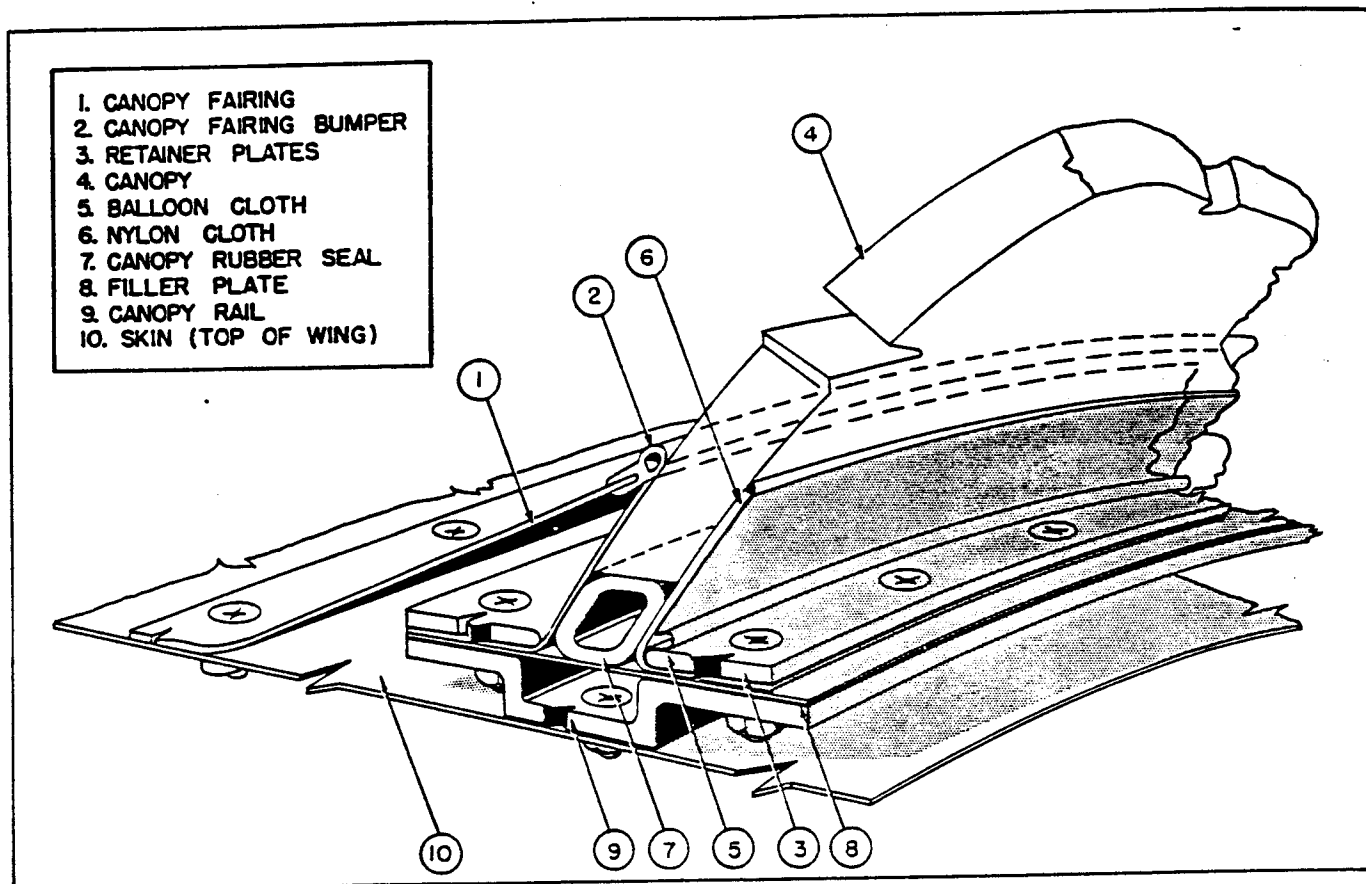

Figure 2. Canopy Installation
(1) REMOVAL.- The forward windows are mounted in cork-rubber and held in place by retainer strips with countersunk screws. The astro dome is secured by a rubber extrusion that can be removed by pulling a thong attached to one end of the extrusion. The canopy can be removed in the following manner (see figure 2):
(2) INSTALLATION. (See figure 2.)